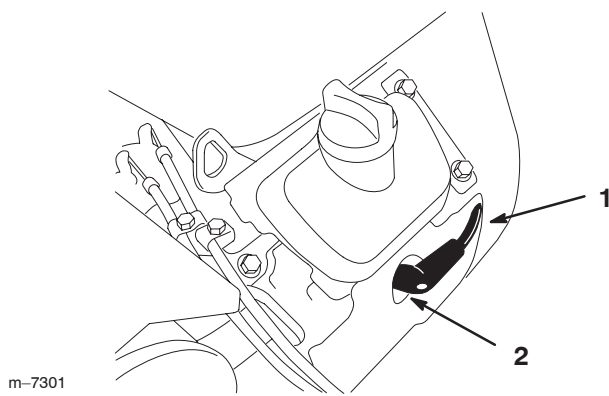

Figure 39
3. Pull the wire(s) off the spark plug(s) (Fig. 39). Now clean around the spark plug(s) to prevent dirt from falling into the engine and potentially causing damage.
3. Push the wire(s) onto the spark plug(s) (Fig. 39).